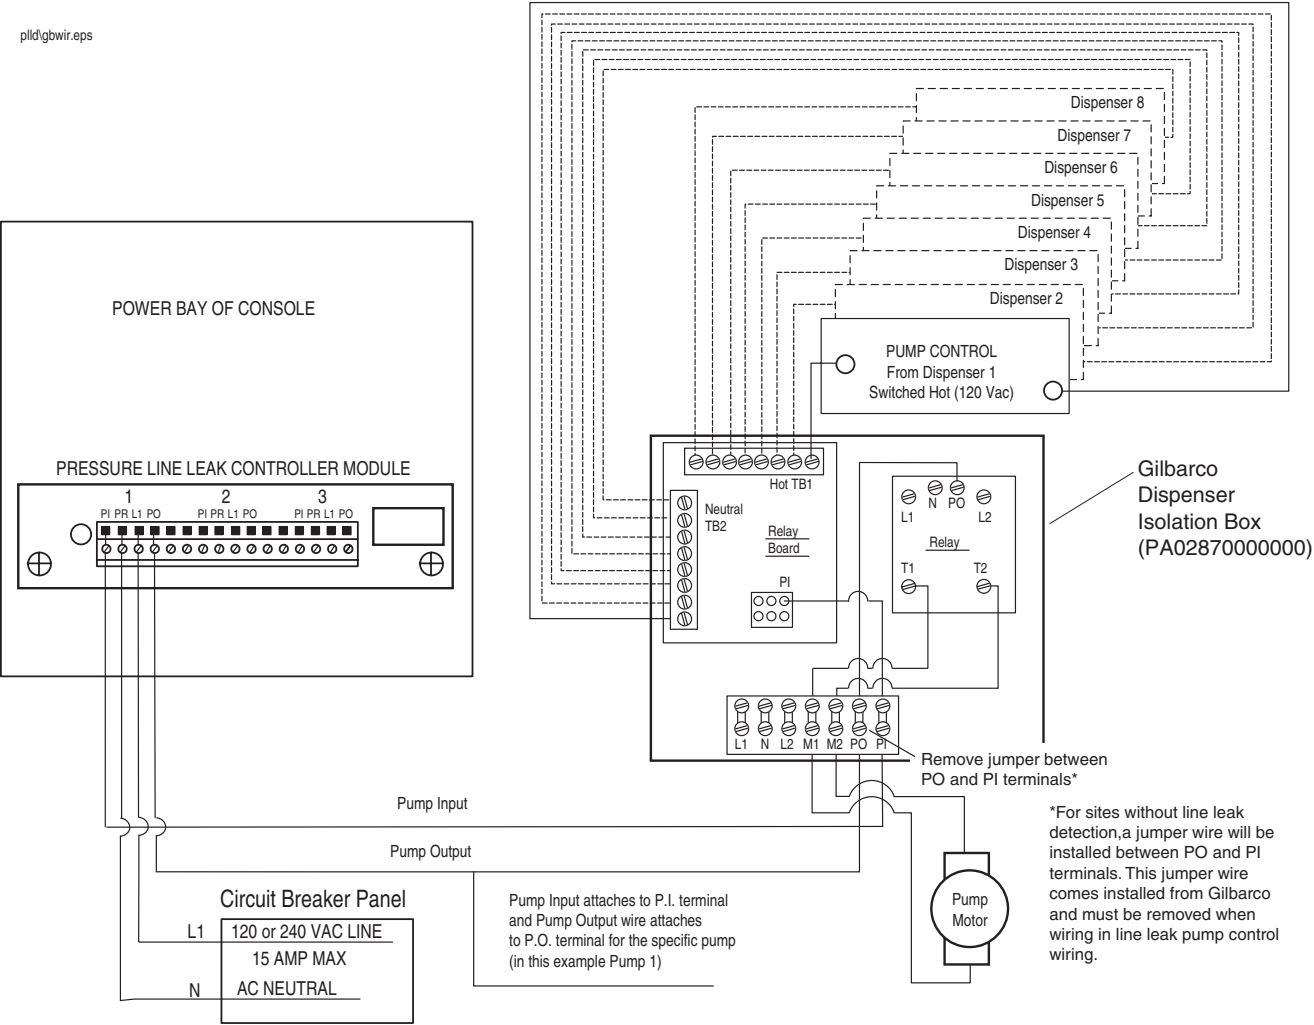

Figure 23. PLLD system and pump control diagram for Gilbarco dispenser isolation box
- Gilbarco dispenser isolation box (ref. Figure 23)